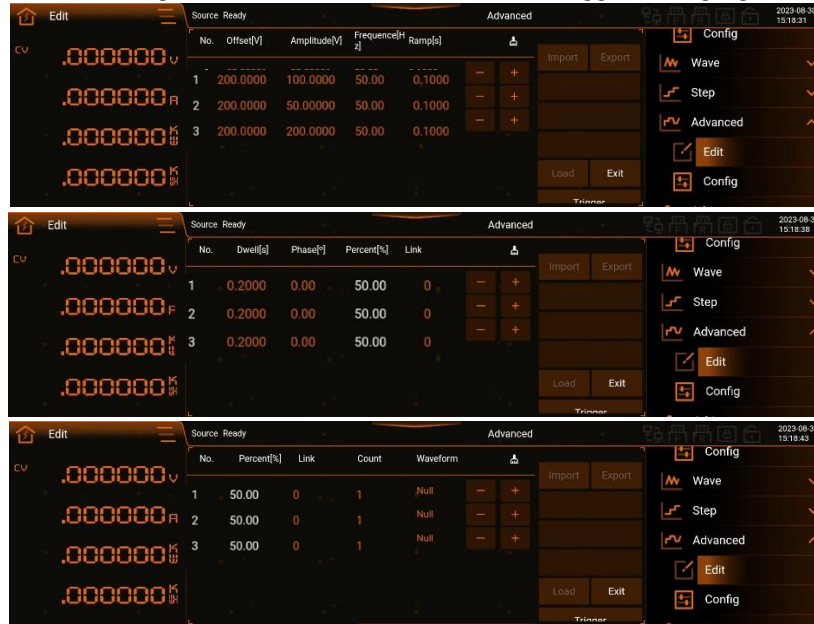

Figure 184 Advanced Programming Example Second Figure
3) Click 'Load' at the bottom right corner, at this time both 'Exit' and 'Trigger' are highlighted, see Figure 184.